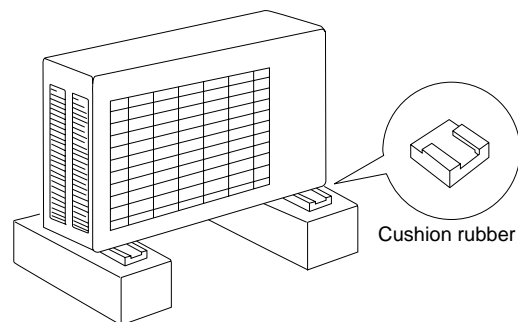

Fig. 6
- Install cushion rubber under unit's feet to reduce vibration and noise. (Fig. 6)